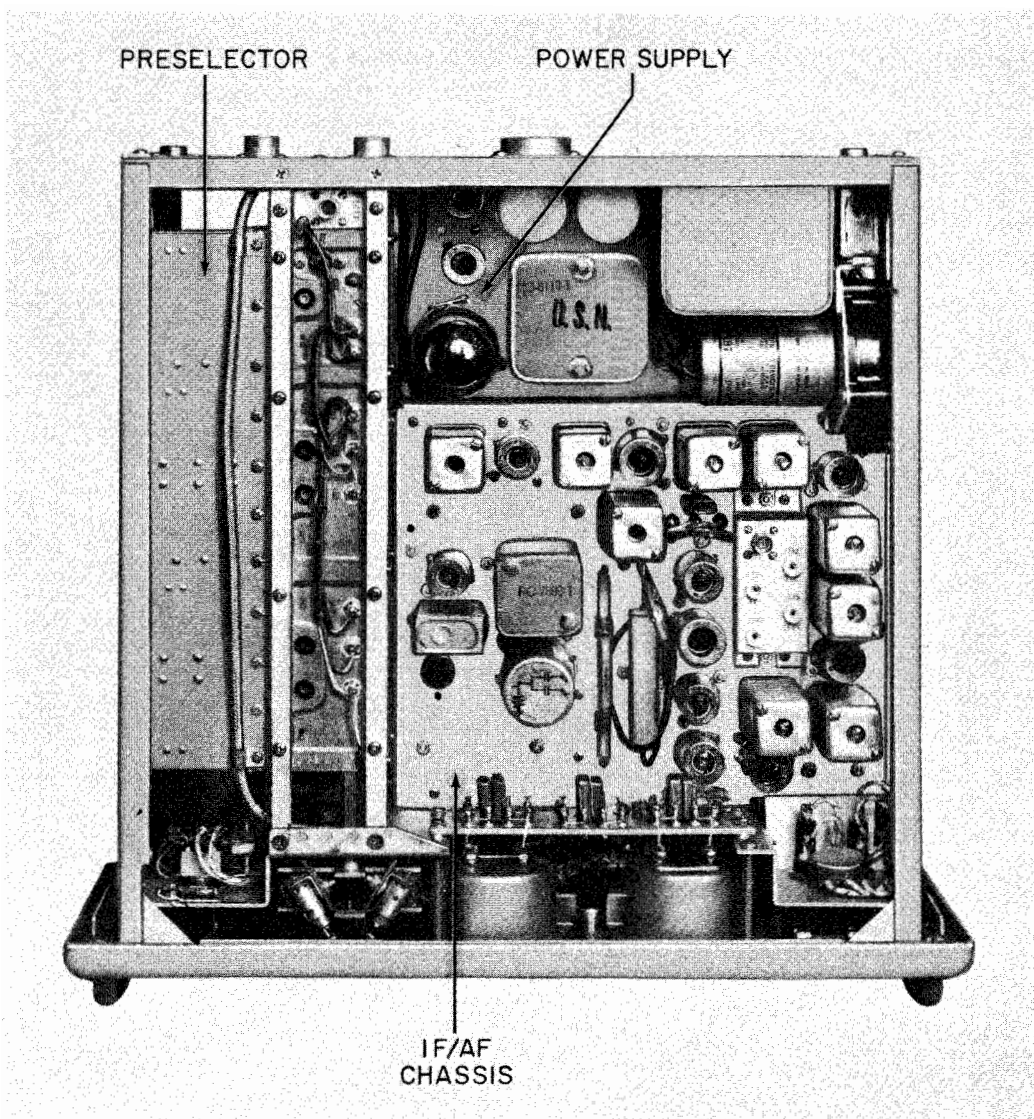

Figure 1-4. Radio Receiver R-482A/URR-35, Identification of Major Subassemblies
**b. FRONT PANEL AND CHASSIS FRAME ASSEMBLY.**—An aluminum frame, attached to the front panel, mounts the preselector, IF/AF and power supply chassis to form a complete chassis assembly; see figure 1-4. The panel is finished in a gray enamel, which blends with the color of the cabinet and is fitted with handles to permit withdrawal of the panel-and-chassis assembly from the cabinet. A spring-stop mechanism on each side permits nearly complete withdrawal of the chassis from the cabinet, but prevents its falling out due to roll, tilt, shock or vibration. When these stop mechanisms are pressed upward by the fingers through holes in the bottom of the chassis frame, the panel-and-chassis assembly may be completely withdrawn. The two hinged doors on either side of the front panel are held closed by knurled-head spring fasteners. These are released by a half-turn to the left, giving access to crystals, fuses and the semi-fixed controls or adjustments.
**c. PRESELECTOR SECTION.** (See figures 1-4, 2-2 and 2-3.)—The preselector section is mounted along the left side of the chassis frame, and comprises all parts of the r-f amplifier-converter and oscillator-multiplier sections. The r-f amplifier section is above the oscillator-multiplier section, and each consists of an aluminum casting with removable covers. The two r-f amplifier stages and the mixer, or first detector, are mounted in the r-f amplifier-converter section. The basic oscillator, two frequency-doubler stages and a frequency-tripler stage are mounted in the oscillator-multiplier section. Partitions in the castings provide r-f shielding between stages.
e. IF/AF SECTION.—The IF/AF section of the chassis is shown in figure 1-4. It is located on the right-hand side of the chassis frame, and mounts the second mixer and oscillator, the i-f stages, the a-f detector, the automatic-gain-control (AGC) circuit, the silencer circuit, the noise-limiter circuit, and the three stages of audio amplification.
f. POWER SUPPLY SECTION.—The power supply section of the chassis, shown in figure 1-4, is mounted